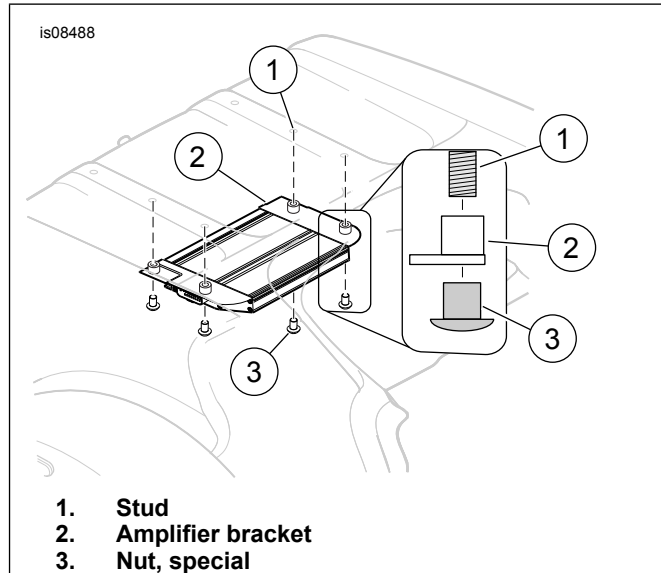

Figure 2. Amplifier Installation
- b. See Figure 2. Position amplifier and brackets (2) over the four studs (1). Place a drop of 243 thread lock on special nuts (3). Tighten special nuts to 6.8–8.1 N·m (60–72 in-lbs).